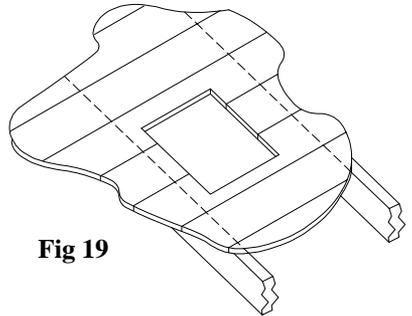

Fig 19
5. Remove shingles or other roof covering as necessary to cut the rectangular hole for the Support Box. Cut the hole 1/8 inch larger than the dimensions of the Support Box. (Figure 19). The rectangular hole should be